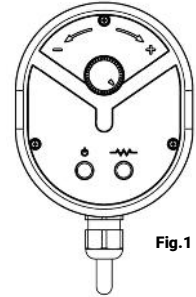

Fig. 1
- The device must be mounted in a horizontal position with the power cable facing downwards (see Fig. 1)